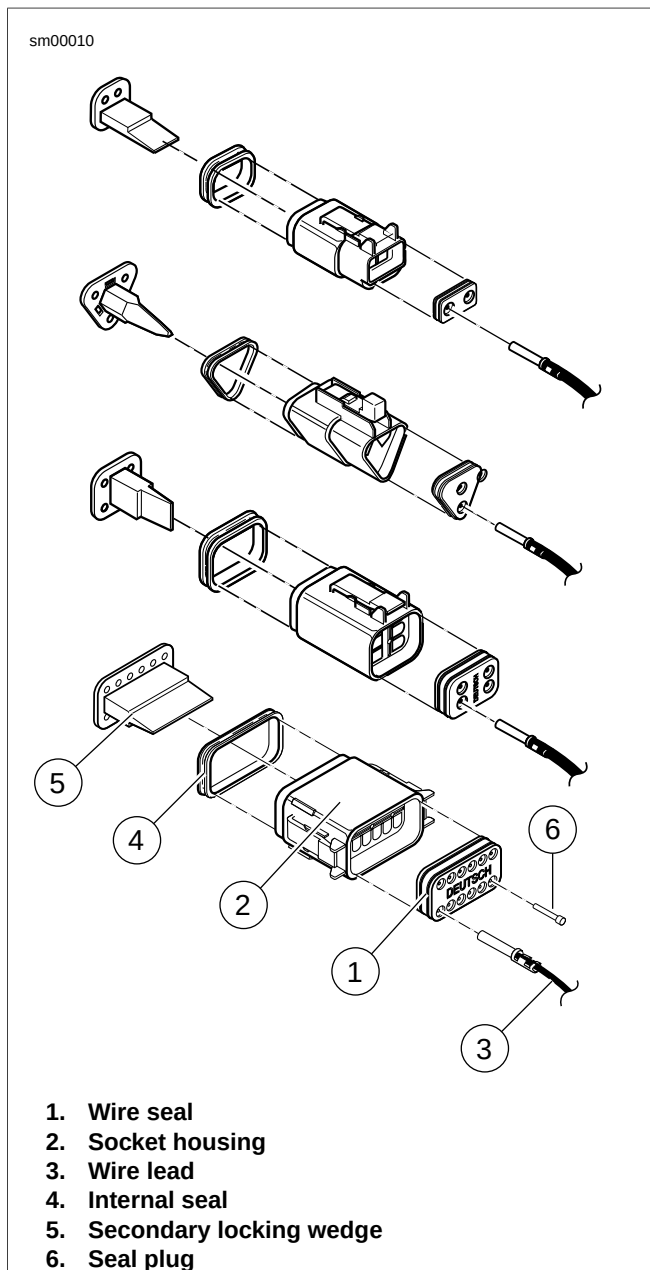

Figure A-29. Deutsch DT Sealed Connector: 2, 3, 4 and 12-Place Socket Housings
2. See Figure A-29. Fit rear wire seal (1) into back of socket housing (2), if removed.
3. Grasp wire lead (3) approximately 1.0 in. (25.4 mm) behind the socket terminal. Gently push socket through hole in wire seal into its chambers until it "clicks" in place.